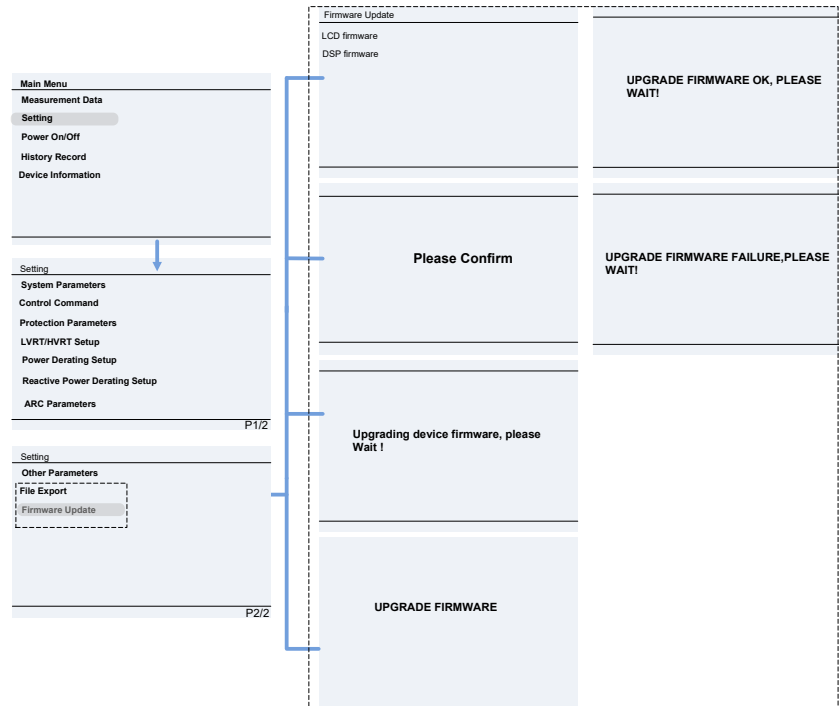

Figure 6-21 Firmware Upgrade Interface
4. Using the same password to enter the **SETTING** menu and select “Firmware Update”. Choose the firmware to be updated (LCD or DSP) and follow the prompts on the screen. See Figure 6-21.